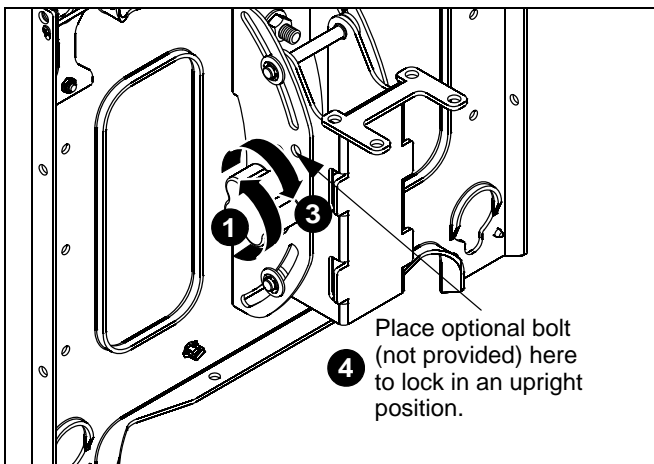

Figure 9
1. Turn knob counterclockwise on back of head assembly to loosen the tilt. (See Figure 9)
3. Turn knob clockwise to tighten display on head assembly. (See Figure 9)
4. If leaving the display in a straight upright position, it is recommended that a bolt (not provided) be placed through the head assembly (see Figure 9) to lock the display into the upright position.